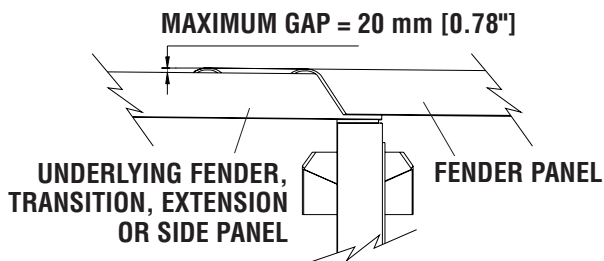

Figure 83
(See figures 83 and 84 on page 53)
10. Check **gaps between Fender Panels**. The maximum gap allowed for these overlapping parts (including Fender Panels overlapping panels behind the System) is 20 mm [.78"] (see figure 83).